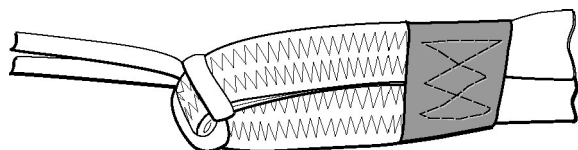

Figure 13. Pilot Parachute Bridle to Pilot Parachute Attachment
(1) Pass the pilot parachute bridle cord's small loop through the attachment loop of the drogue deployment bag.
(2) Pass the cord's large loop end through its small loop and pull it snug into a Lark's head knot.
(3) Pass the pilot parachute bridle cord's large loop end through the pilot chute's attachment loop. Route pilot chute crown through large loop. Continue pulling pilot chute through loop. Pull attachment cord snug, forming Lark's head knot (Figure 13).